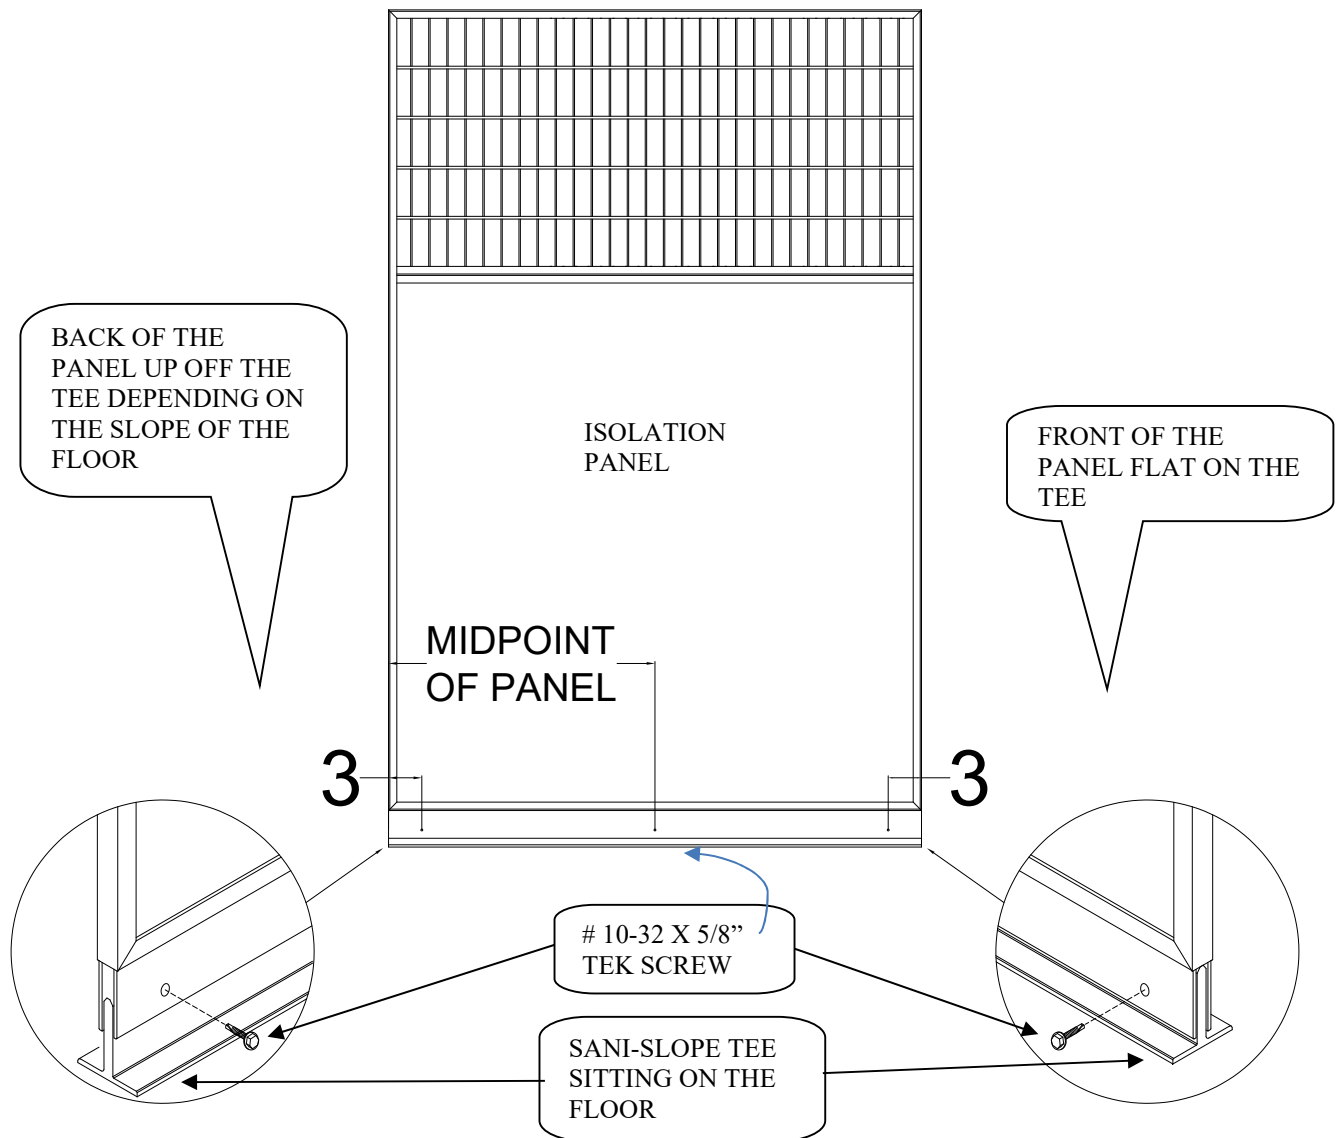

Figure 8
1. Using a hammer, tap all the “Sanislope T’s” on the front end of the run, back until they are flush with the front edge of the division panel as shown in Figure 8.
2. While the panels remain level, apply downward pressure to the Sanislope T, drill a 11/64” hole at least 1/2” deep, through the “Sanislope “H” at the bottom of the division panels into the “Sanislope T”, as shown in Figure 8. After each hole is drilled, drive a #10-32 x 5/8” TEK screw into the hole. Spraying a little WD40 into the hole before driving the screws will simplify the process. (**NOTE:** if your system is using the Silvis Seal, it is the downward pressure on the Sanislope Tee that ensures the Silvis Seal performs properly.)
3. Repeat step D-2 for all screw locations shown on Figure 8 for both division panels.